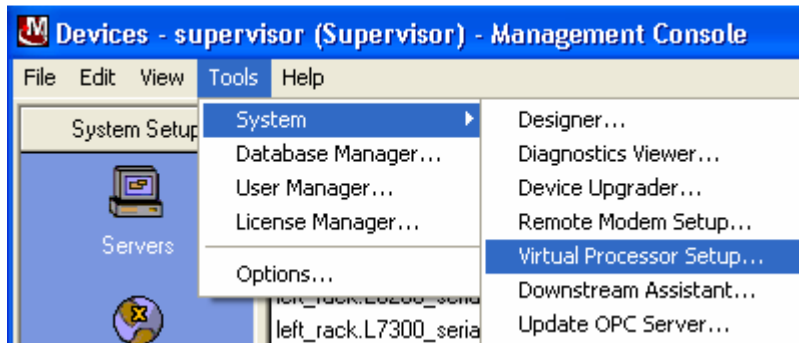

Figure 3.0: Management console - VIP Setup Tool.
2. Open Management Console > Tools > System > Virtual Processor Setup (Fig 3.0)